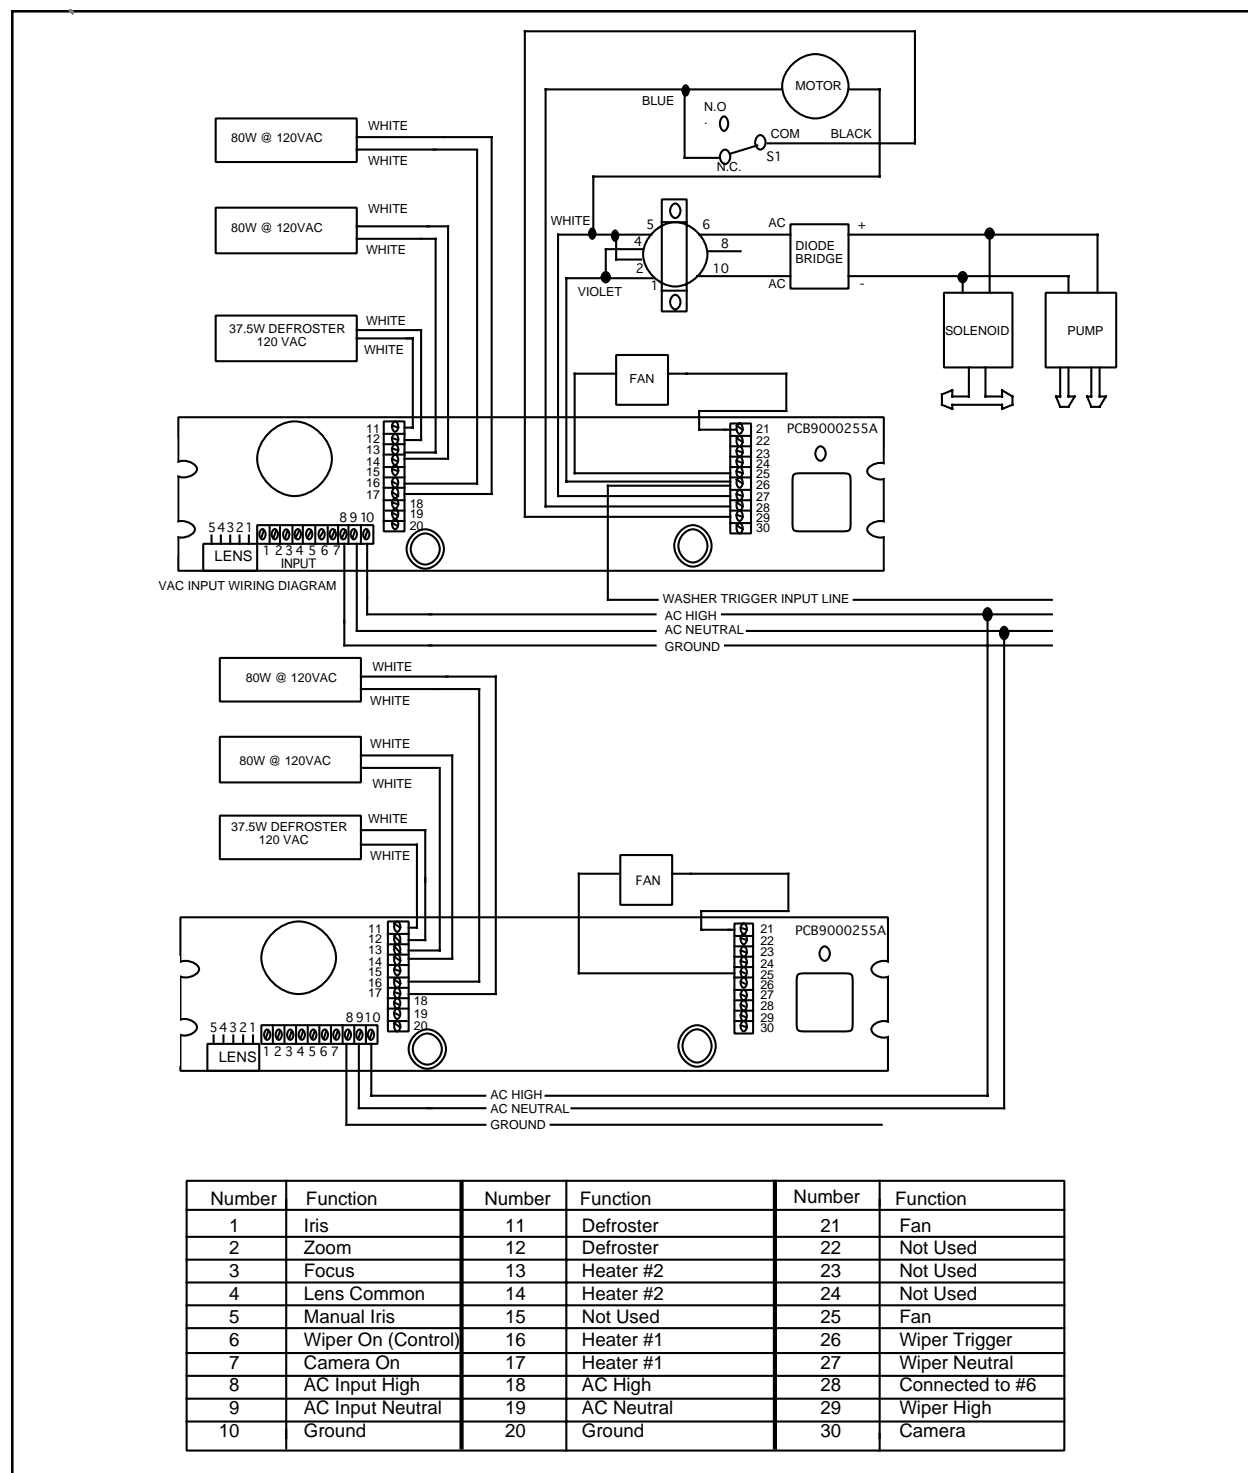

Figure 2. Wiring Diagram for Blower and Heater, 120V
The heater and blower assemblies are factory pre-wired for power input and only require connection of power to the terminal block. Refer to Figure 2, 3 or 4 for the proper connections.
4. Route the camera cables through the cable entry boot and connect to the camera. Wire the enclosure according to the wiring diagram provided (see Figure 2). Depending on the size of the cable bundle coming into the enclosure, the cable entry boot can be modified in the field. Horizontally cut the cable entry boot one lip at a time until you have an adequate opening.